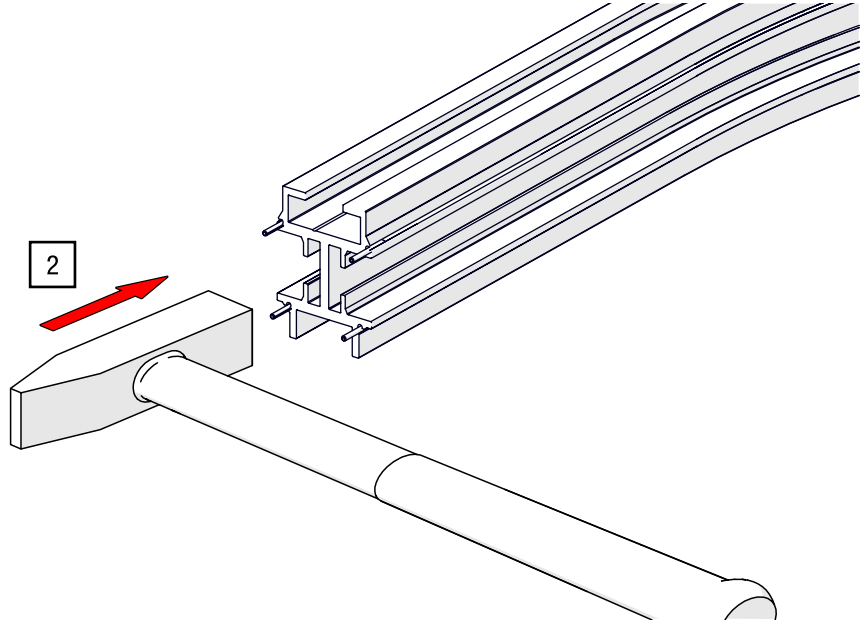

Fig. 44: Track splice – Hammer in connecting pin
2. Carefully hammer the connecting pins halfway into the track (see Fig. 44).